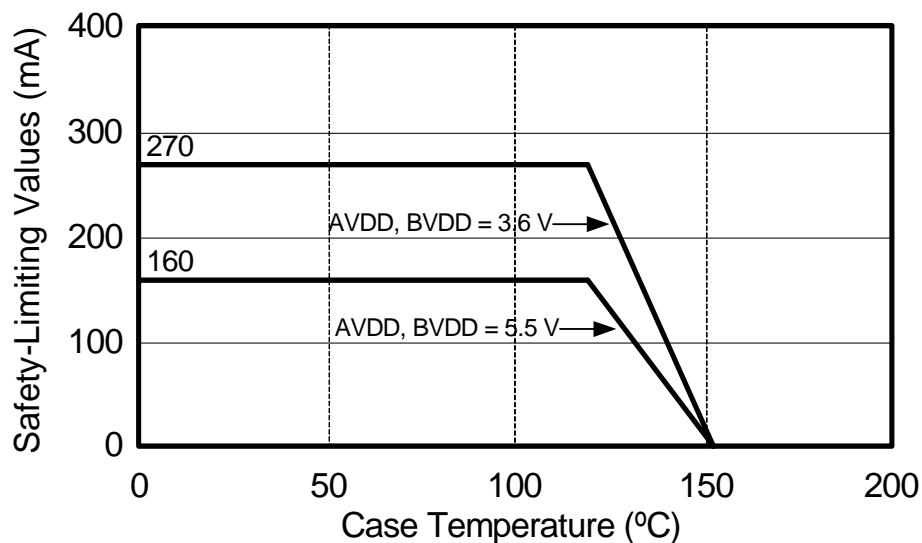

Figure 4. NB SOIC-8 Thermal Derating Curve, Dependence of Safety Limiting Values with Case Temperature per DIN EN 60747-5-2
- Maximum value allowed in the event of a failure. Refer to the thermal derating curve in Figures 4, 5, and 6.